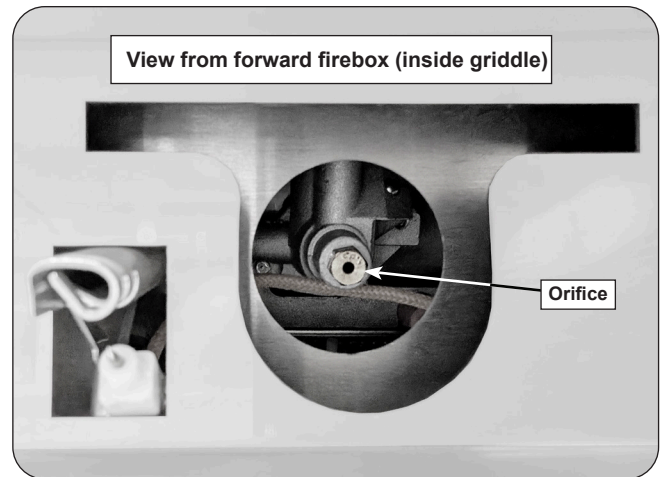

Fig. 43-1 Orifice conversion
3. Use a 6mm hex deep socket nut driver to remove the exposed orifices (Fig. 43-1). Check orifices. If needed, replace them with the correct orifices for the new gas.